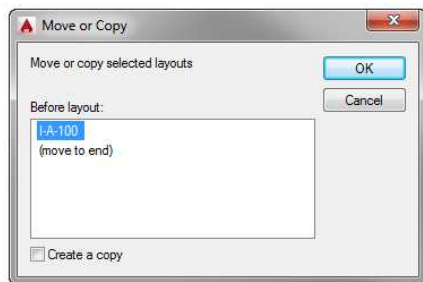

FIGURE 14.23: Copying a layout by using the Move Or Copy dialog box
3. Select the (Move To End) option in the Before Layout portion of the dialog box, and then select the Create A Copy check box (see Figure 14.23).